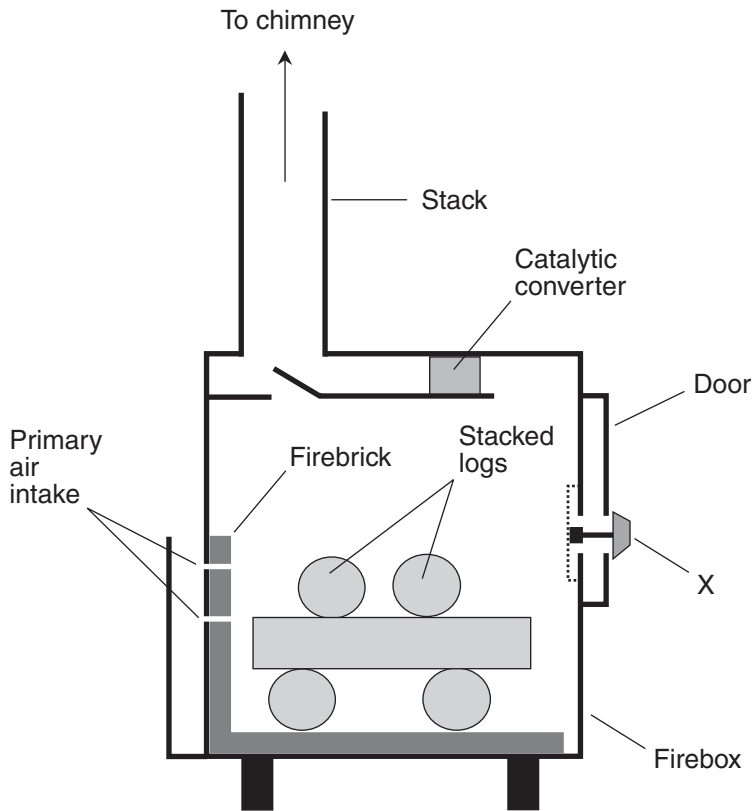

Figure Exam-5 Diagram for question 56.
56. Figure Exam-5 is a cross-sectional diagram of a stove for burning cut wood. What is the function of the component marked X?